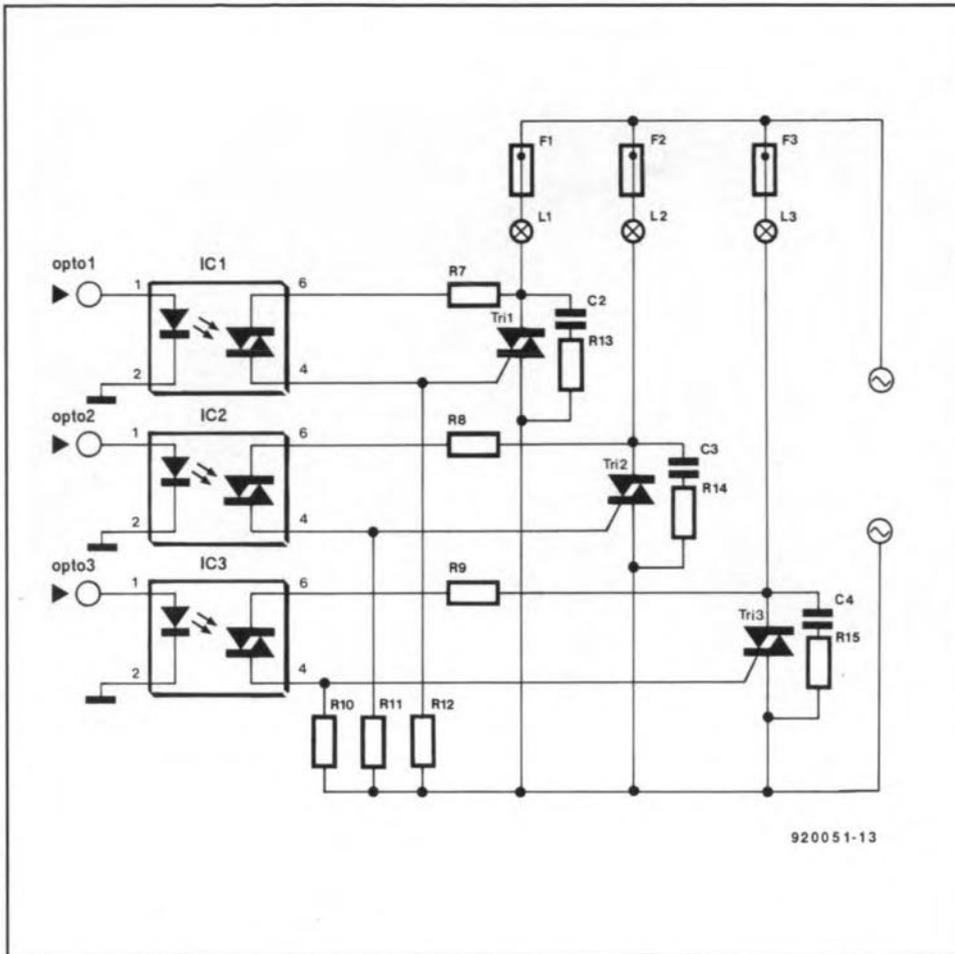

Fig. 2. Automatic/manual control circuit.
The circuit is best built on the printed-circuit board shown in Fig. 2. Start the construction with the wire links and end with placing the display into its holder. Since the display is mounted over IC1, it is important that the 7106 is fitted in a low-profile holder. If the display does not fit properly on to the two terminal strips, plug another pair of terminal strips into the first and then the display into the second pair.
The pulse generator is built around a Type 4047 monostable/astable multivibrators shown in Fig. 2. Three different clock signals are available: (a) at pin 13 (oscillator output); (b) at pin 10 (Q); and (c) at pin 11 (Q). The pulse width (on-time) is controlled through an RC circuit connected between pins 1, 2, and 3.
500 mA, is required to power the circuits. The circuit in Fig. 2 is best constructed on an individual small PCB. The location of photovaristor R16 depends on individual requirements. Adjust P2 for the desired level of 'darkness' as indicated by the lighting of D0 (and the relay changing state). The pulse width is controlled by P1, which is normally set for a value of 330 ms (≈3 Hz).